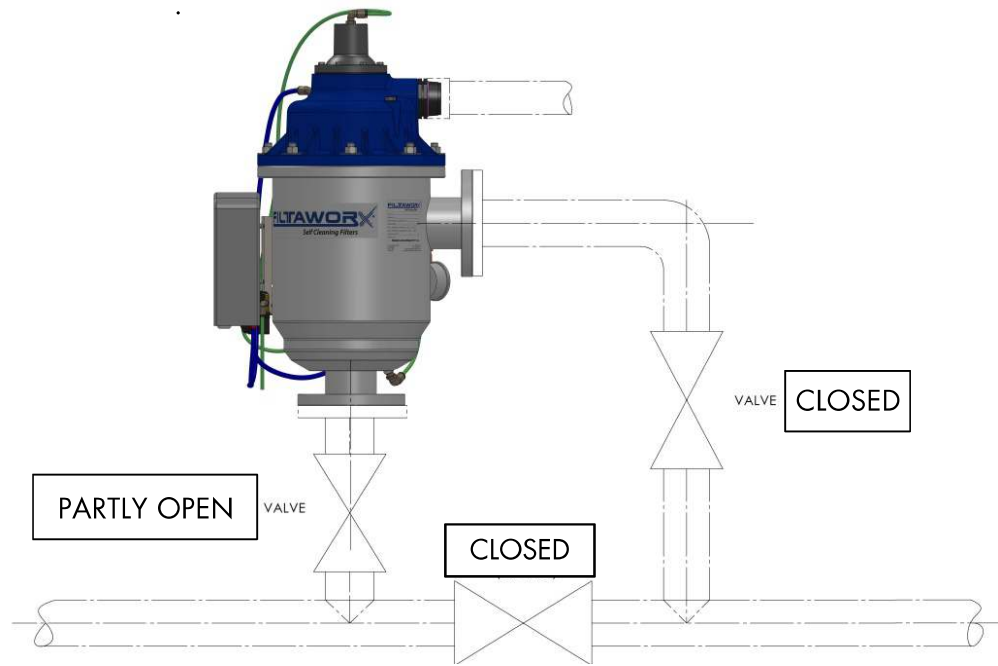

Figure 7 Filter Fill with Water
9. Fill the filter with water, close the outlet valve and part open the inlet, you will hear water entering the filter. This will take a few minutes. See Figure 7 below.